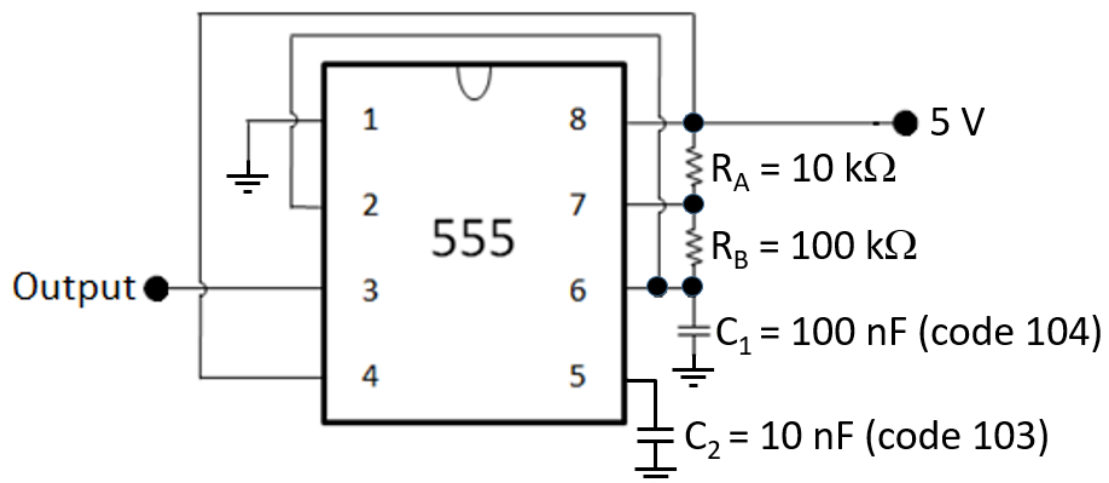

Figure 8: 555 timer circuit to be used for verifying your calculations.
4. For the circuit shown in Figure 8 below, calculate the values of t_1 , t_2 , and f .
5. You will now verify your calculations through experiments. Construct the circuit shown in Figure 8 on your breadboard. The '-' terminal of your USB breakout cable serves as the ground in this circuit. Ensure that all the grounds in the circuit are connected to this ground (i.e., they must have a **common** ground).